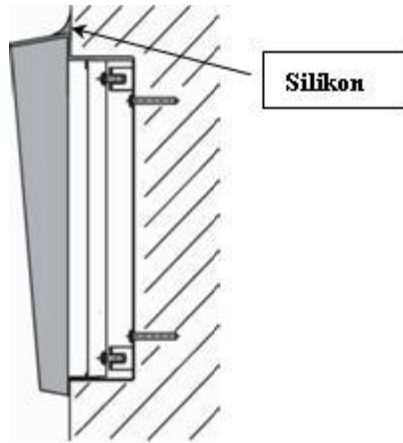

Figure 2.5 Roof Mounting
8. While installing a roof module, paste its top and side edges to the wall using silicon glue as shown in Figure 2.5 to prevent water from flowing into the box along or around the cables.
- The joint between the roof module and the wall must be filled with a waterproof cement to prevent water in-leak (see Figure 2.5).